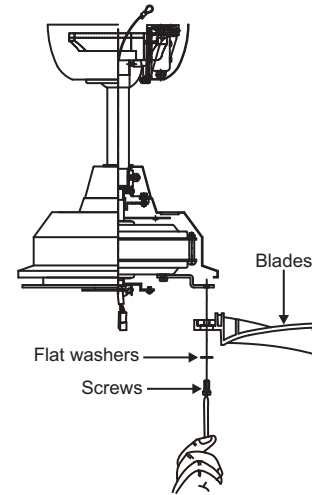

Fig. 15
Step 1. Align the holes from the blade to the holes from the motor, and secure the blade in place with screws and flat washers provided. (Fig. 15)